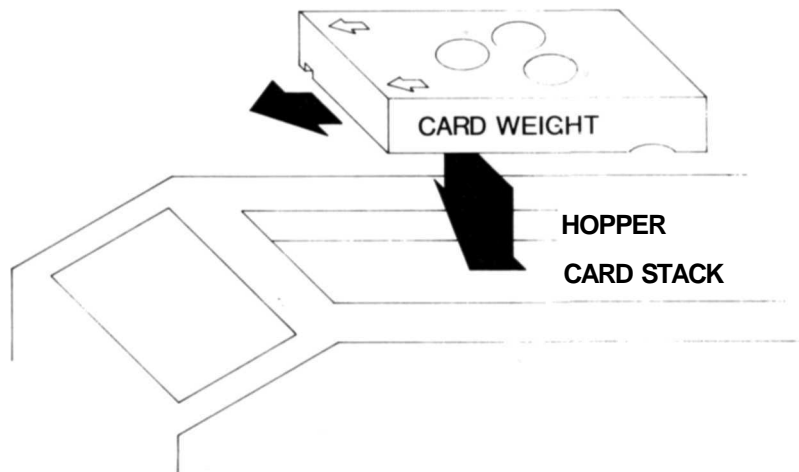

Figure 5. Card Weight Positioning
2. The Card Weight (see Figure 5) must be positioned on top of the card stack. The Card Weight slot must be positioned so that when the Hopper is empty, the slot is positioned over the micro-switch at the bottom of the Hopper.